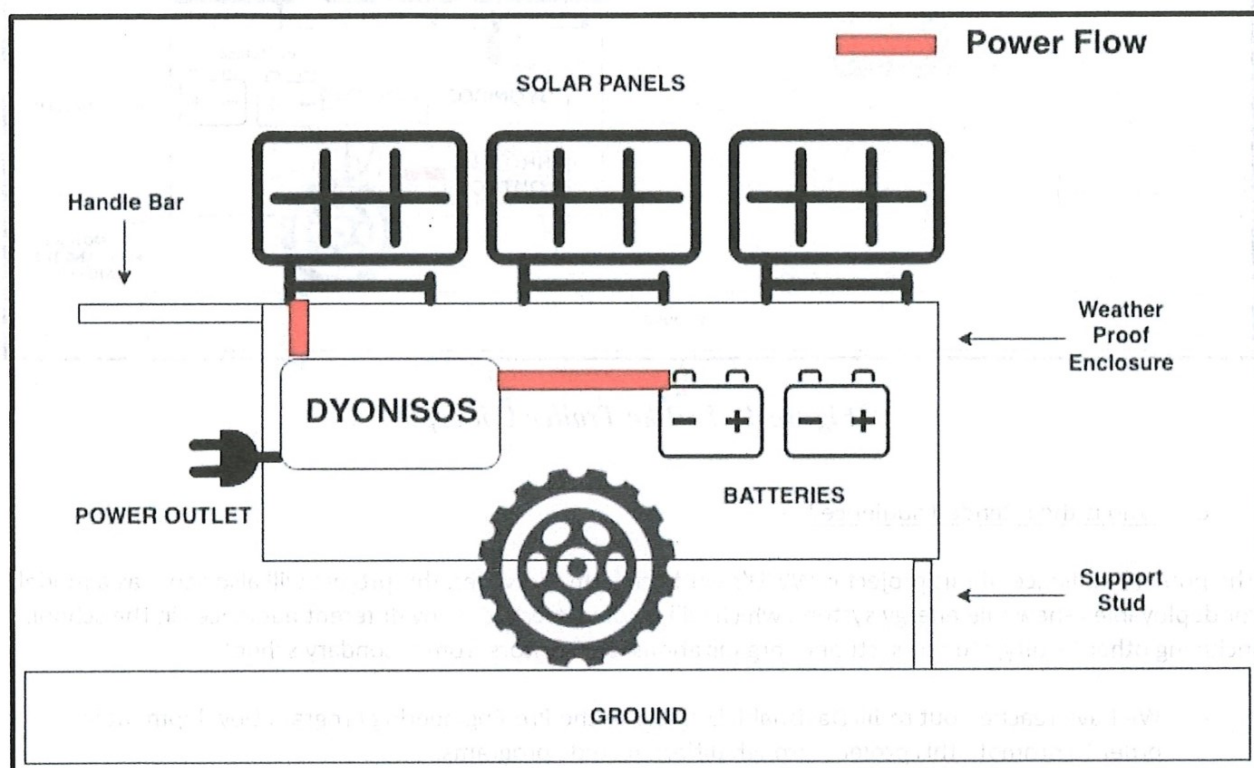

Figure 3 - Energy Trailer Concept
- (1) Dyonisos will provide power for the outdoor cabin at the Outback Farm, allowing for a greater range of activities to be held on site (e.g., outdoor concerts, classes) and providing power needs for agricultural purposes. The Outback Farm is currently trying to increase the efficiency of their irrigation system and Dyonisos can provide the energy required to run water pumps. The implementation at the farm will be done through the creation of a mobile energy trailer; a self-contained solar energy harvester and storage system with Dyonisos at its core. Figure 3 shows a schematic of the possible realization of this first project.